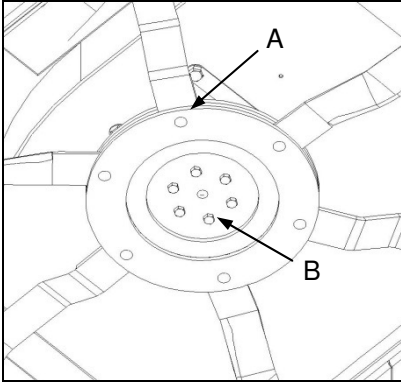
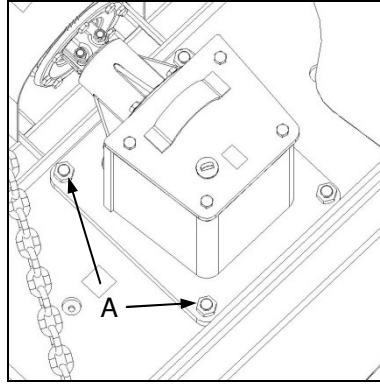
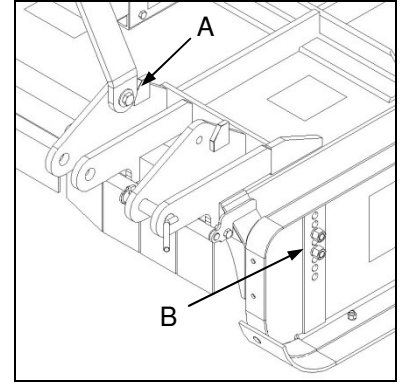

Fig. 1
Fig. 2
Fig. 3
- ✔ Check all fasteners for tightness. This includes special attention to safety-critical fasteners such as blade bolts and nuts (Fig. 1-A), cutting gear mounting bolts (Fig. 1-B), gearbox mounting bolts (Fig. 2-A), topmast mounting and pivot bolts (Fig. 3-A) and side panel retaining bolts (Fig. 3-B).
- ✔ Verseker dat alle hegstukke vas is. Dit sluit in spesiale aandag aan veiligheidskritieke hegstukke soos lemboute en -moere (Fig. 1-A), snymeganisme monterboute (Fig. 1-B), ratkas monterboute (Fig. 2-A), topmasmonter- en -spilboute (Fig. 3-A) en sypaneel monterboute (Fig. 3-B).